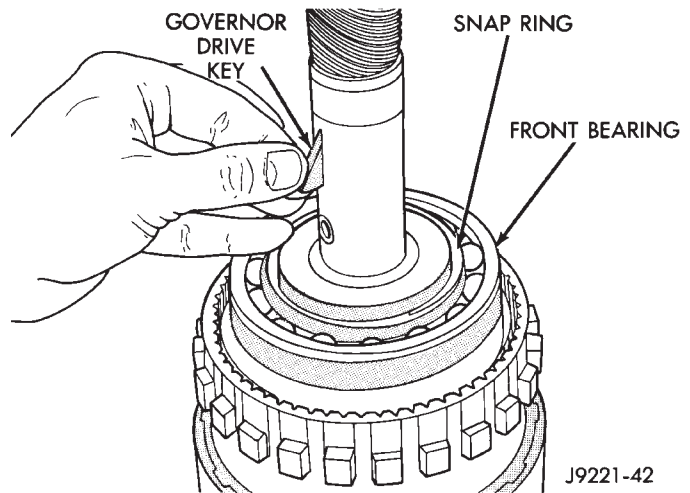

Fig. 56 Front Bearing And Drive Key Installation
(1) Install front bearing and snap ring on output shaft (Fig. 56). **Be sure locating ring groove in bearing is toward rear of shaft.**
(2) Install governor drive key in output shaft (Fig. 56).